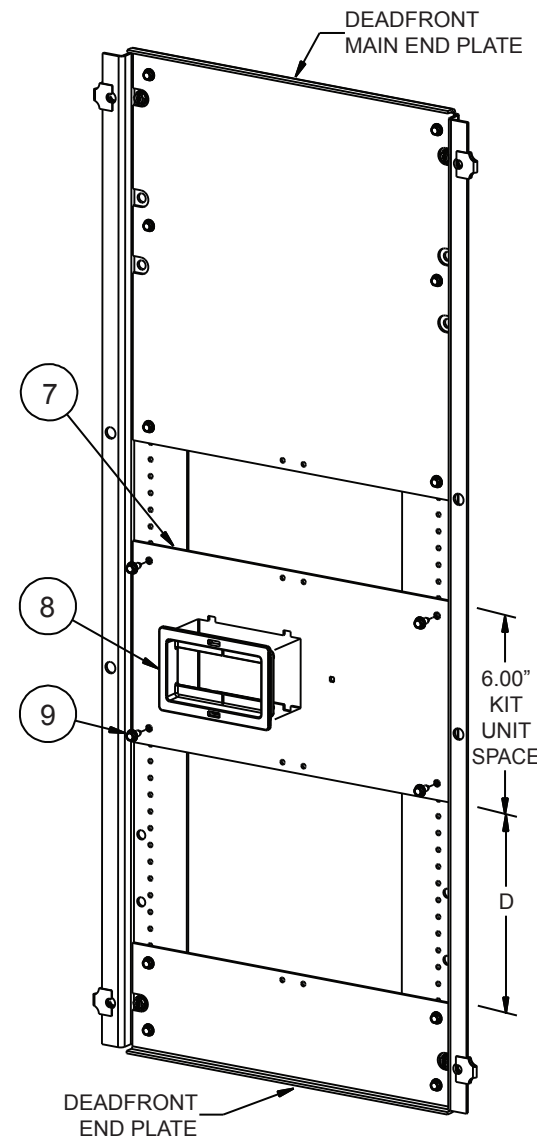

Figure 4
10. Refer to Figure 4: Identify the deadfront area that will cover the 6" kit unit space. Measure the unit space locating dimension **D** directly from the deadfront end plate (as shown).